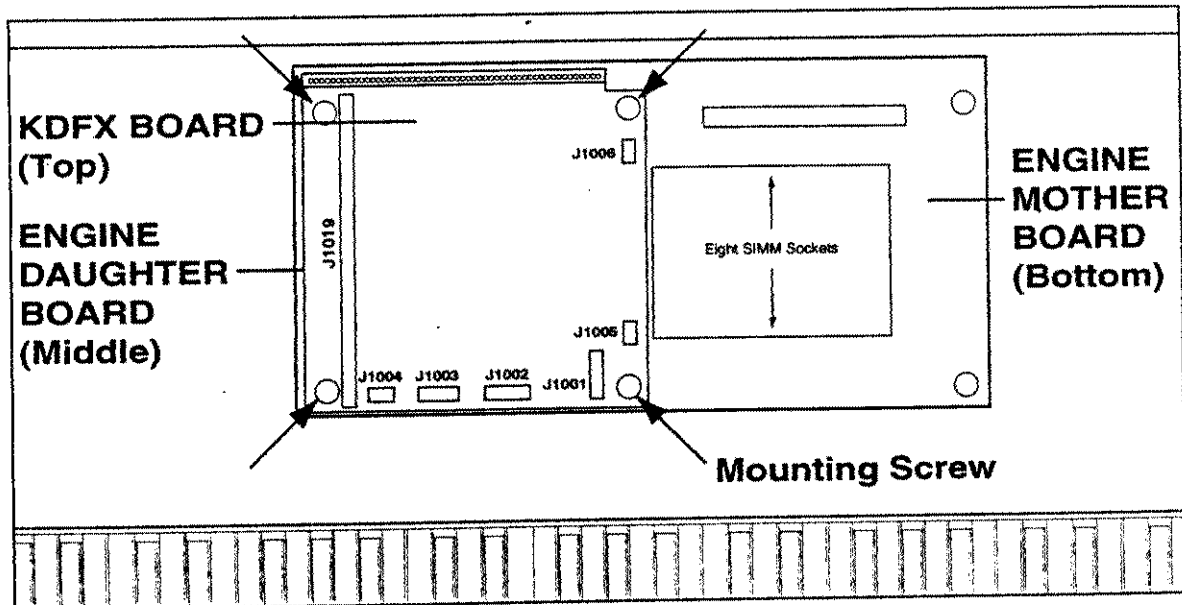

Figure 6.
8. Determine if this K2500 is equipped with a KDFX Board. If installed, the KDFX Board is attached to the top of the Engine Daughter Board (see Figure 6). Remove the four screws that hold the KDFX Board in place. Arrows in Figure 6 point to the four screws.